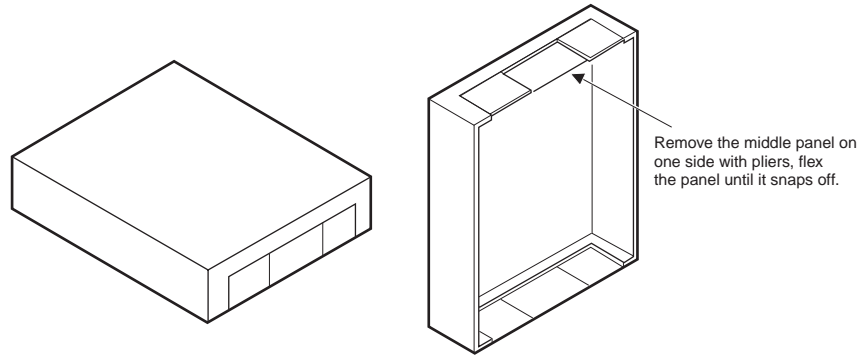

Figure 29. Removing Battery Cover Knockout Panel
- 25 If the batteries were equipped with protective plastic covers (Step 2), locate and remove the thin-walled panel at the center of the short side of the cover as shown in Figure 29 on page 35. Using pliers, flex the panel until it snaps off.